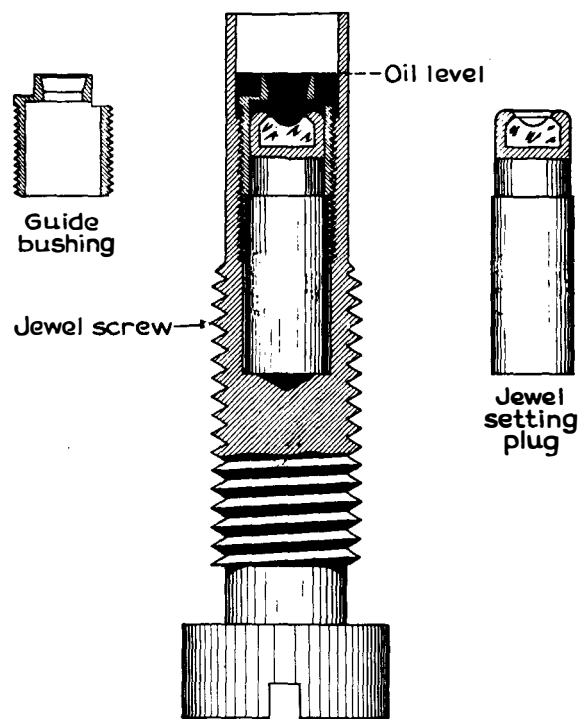

Fig. 1. Oiltight jewel screw
The oiltight jewel-pivot bearing, Fig. 1, consists of a jewel assembled within an adjustable bushing at the bottom of the meter frame, and a pivot which is screwed into the lower end of the disk shaft.
Watthour Meter Jewel Oil be added, if required, to raise it to the level indicated in Fig. 1. It is not always necessary to disassemble the jewel screw for a second oiling, as there is little chance for the oil in the reservoir to be lost.
The following directions for initial oiling of the Oiltight Jewel Screw are given with reference to Fig. 1:
- Inspect the oil level, which should be as shown in Fig. 1. Because of minor variations in mechanical dimensions of the reservoir or variation in size of the drops obtained from the wire loop, three drops of oil cannot always be taken as the correct amount. If more is needed to fill to the right level, it should be added.